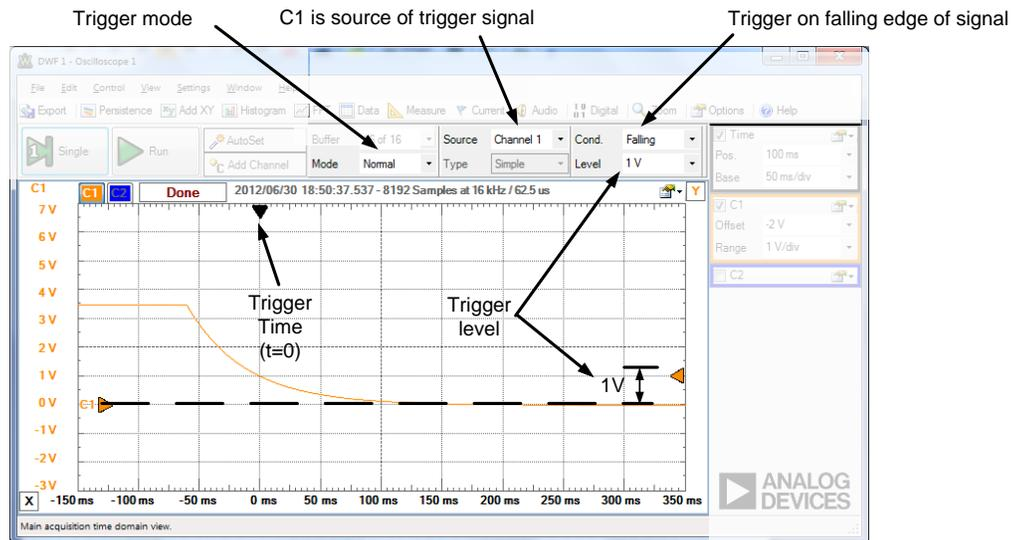
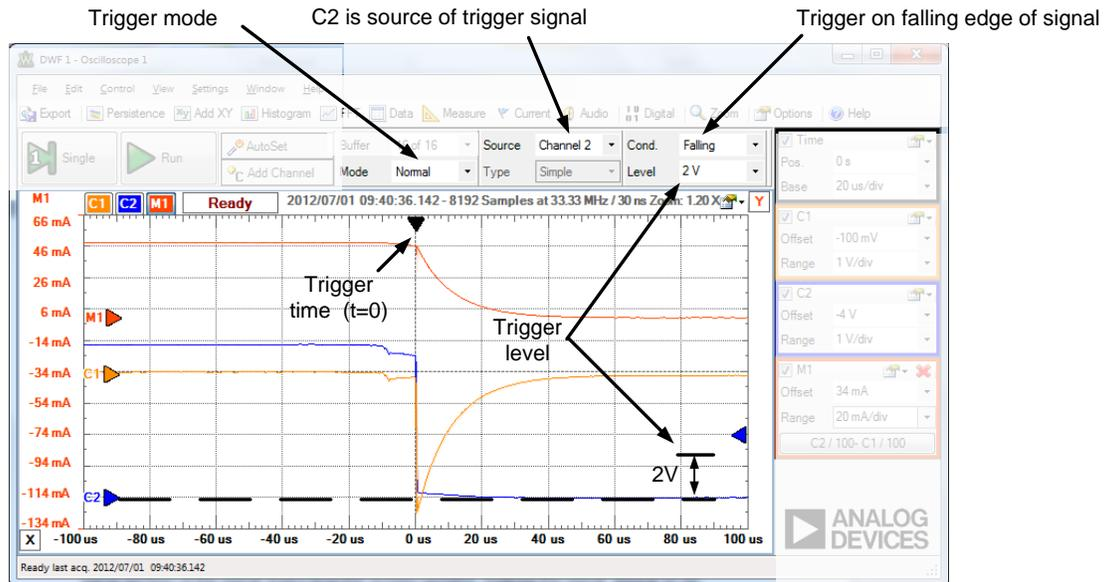

Figure 2. Example trigger settings and resulting waveform.
Figure A2. Example trigger settings and resulting waveform.
voltage level for the trigger. In Fig. A2, example settings for this lab are shown. In this example, the trigger is set to activate when the signal first reaches 1V and is decreasing² (**Falling**). Fig. 2 shows that zero time on the horizontal axis corresponds to this condition on the wave form.
- *Cond and Level*: These options specify the waveform feature used to set the trigger. *Cond* specifies a condition on the trigger – this is either **Rising** or **Falling**. If Rising is chosen, the trigger will set when the signal is increasing; Falling results in the trigger being set when the signal is decreasing. *Level* sets a voltage level for the trigger. In Fig. A2, example settings for this lab are shown. In this example, the trigger is set to activate when the signal first reaches 1V and is decreasing⁵ (**Falling**). Fig. A2 shows that zero time on the horizontal axis corresponds to this condition on the wave form.